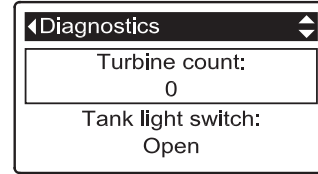

FIG. 157
2. Press the DOWN (▼) button to scroll through the list until **Turbine Count** is displayed (See Figure 157).